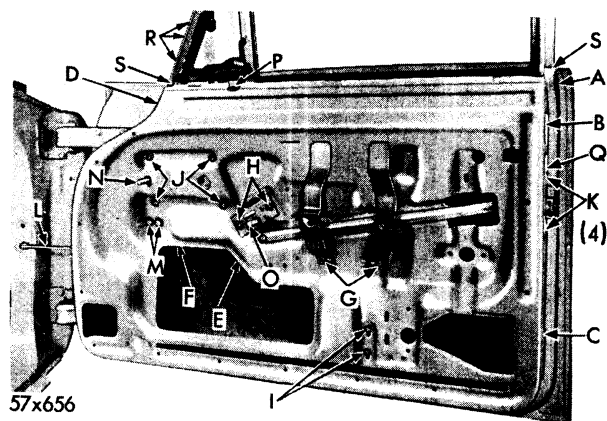

Fig. 51—Front Door Assembly (Four-Door Sedan)
a. Removal (Fig. 51)
Refer to Figure 51 (57x656) and proceed as follows: Loosen frame mounting bolts "A," "B," "C," "D" and "F." Loosen the division bar mounting bolt "E."